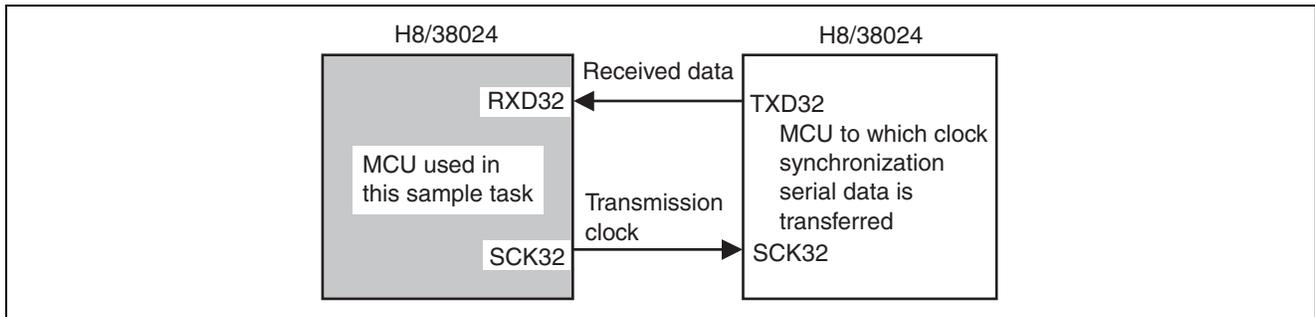

Figure 1 Clock Synchronization Serial Data Master Reception with the H8/38024
- Clock synchronization serial data master reception is performed using SCI3 of the H8/38024, as shown in figure 1.